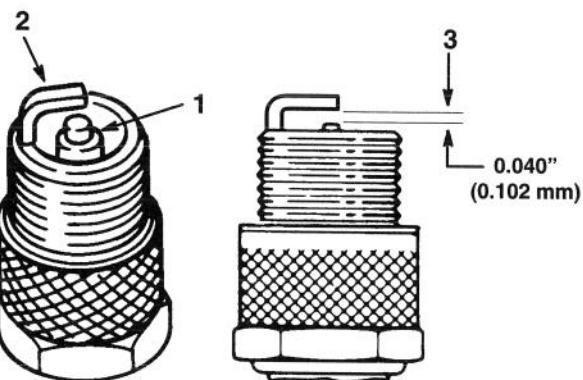

**Figure 21**
3. Pull the wire(s) off the spark plug(s) (Fig. 21). Now clean around the spark plug(s) to prevent dirt from falling into the engine and potentially causing damage.
3. Push the wire(s) onto the spark plug(s) (Fig. 21).